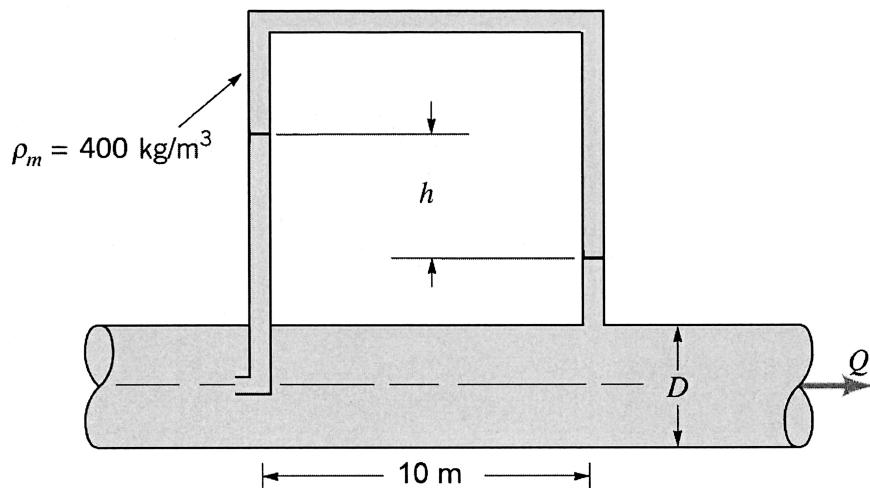

Figure 3
- 3 (a) A liquid of density 1200 kg/m^3 and dynamic viscosity 0.04 Ns/m^2 flows through a horizontal pipe of diameter 0.05 m and length 10 m as shown in Figure 3. The density of the manometer fluid is 400 kg/m^3 .